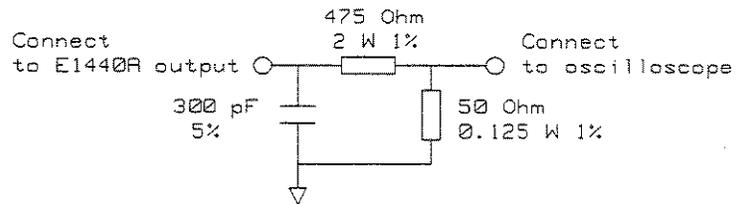

Figure C-11.  $500\Omega$  300 pF load/Voltage divider
12. Connect the HP E1440A output to the analog oscilloscope via a  $500\Omega$ , 300pF load/voltage divider, as shown in Figure C-11.